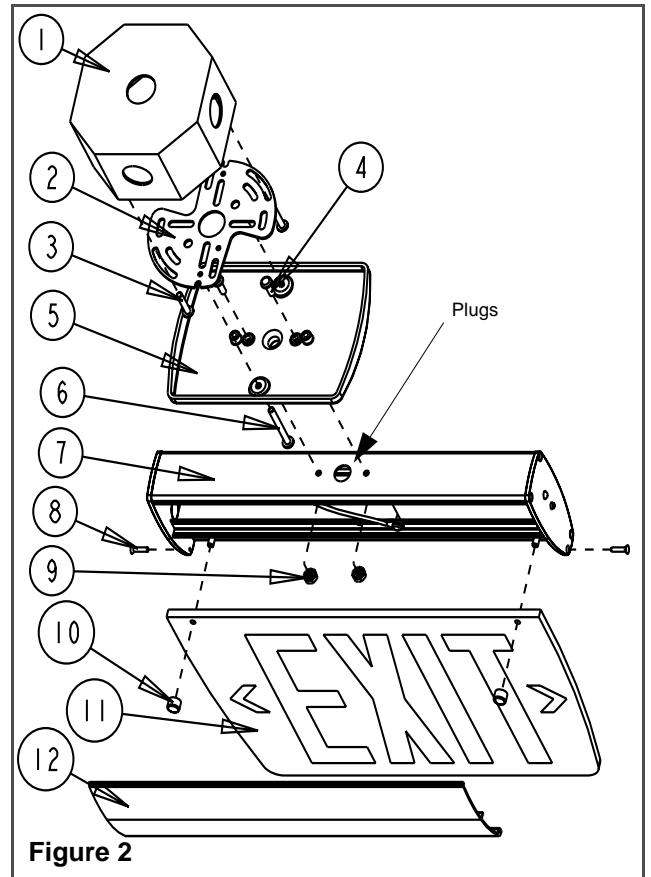

Figure 2
Ceiling or End mount (See Figure 2 & 3)
- a. For ceiling mount: remove plugs (see figure 2)